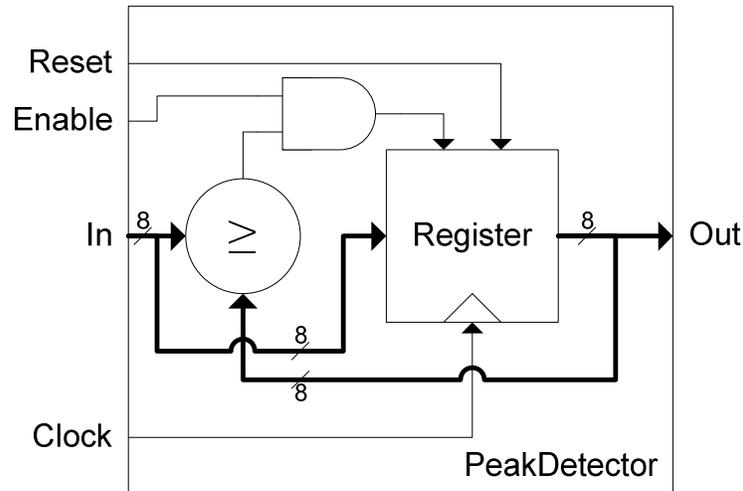

Figure 4: The Peak Detector
- 5. In the text editor of your choice (we recommend notepad) create a file called **PeakDetector.v** in which you will define a single modules called `PeakDetector`. Refer to Figure 4 for more information.